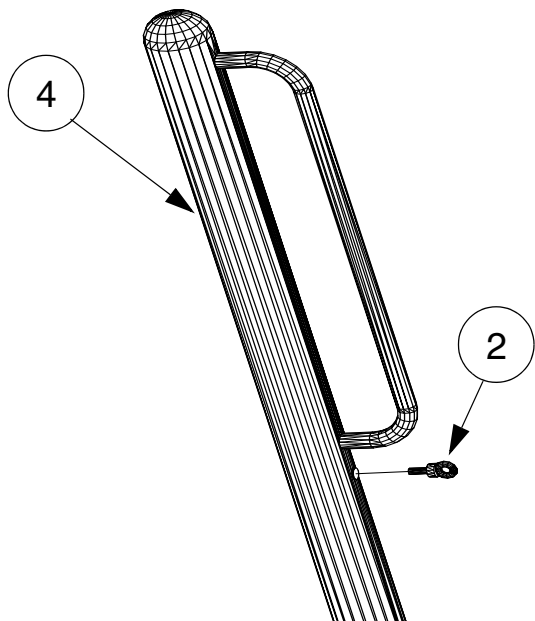

FIG.7
- vii) After concrete has completely cured screw eyebolts (item 2) into mounting holes in support posts ensuring a full engagement of thread. Note required orientation and use P.T.F.E tape on eyebolt threads before assembly. FIG.7.